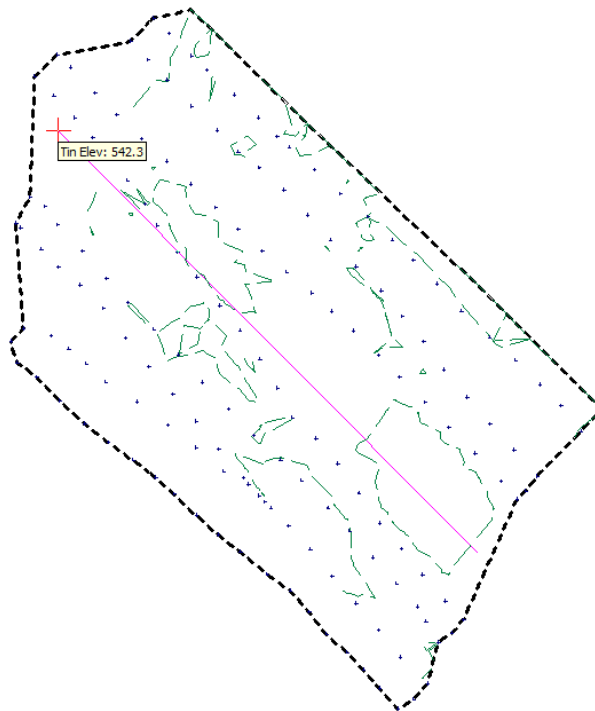

Figure 3: *Drawing the Centerline Feature*
3. In the Plan Window draw a centerline feature as show in Figure 3.